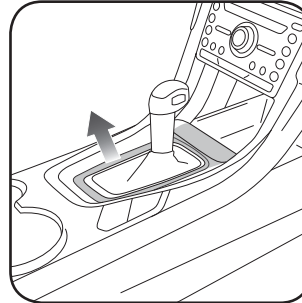

Fig. 1.1
1. Unclip and remove the shifter trim panel. (Fig. 1.1)